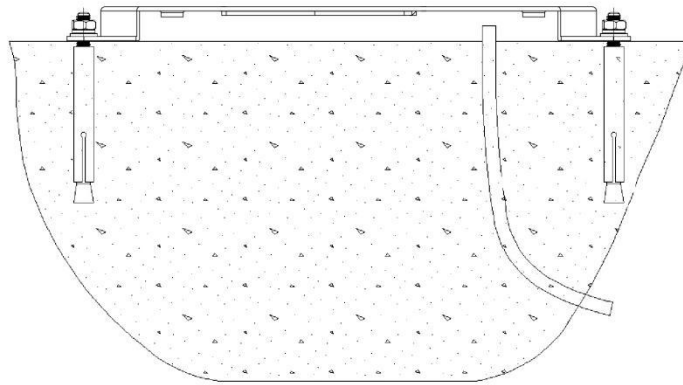

Figure 9
- Place the mounting plate and pre-fix it, tighten the nuts making sure to add spring and flat washers (see Figure 9).